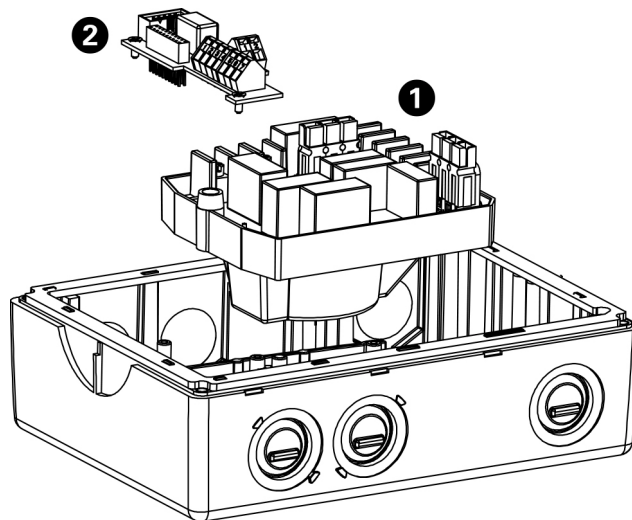

Figure 2-2 Removing the Filter and I/O Boards
3. Remove the I/O Board (2) (as shown in Figure 2-2).
4. Remove the Filter Board (1) (as shown in Figure 2-2).